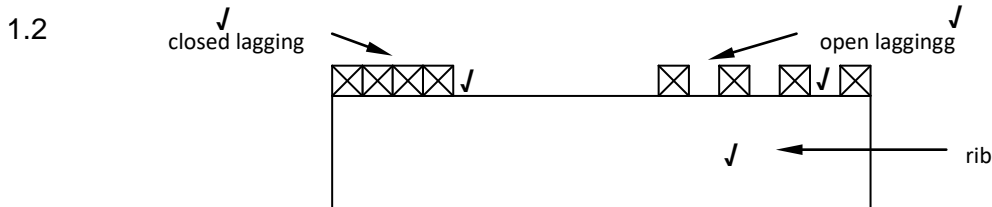

FIGURE 1.10
1.10 **FIGURE 1.10** shows the external walls of two bindings. Flying shores must be installed between the two walls. Complete the drawing to show the horizontal shore, wall plate, wedges, needle, cleat and straining sill. Ignore the strut. (6)